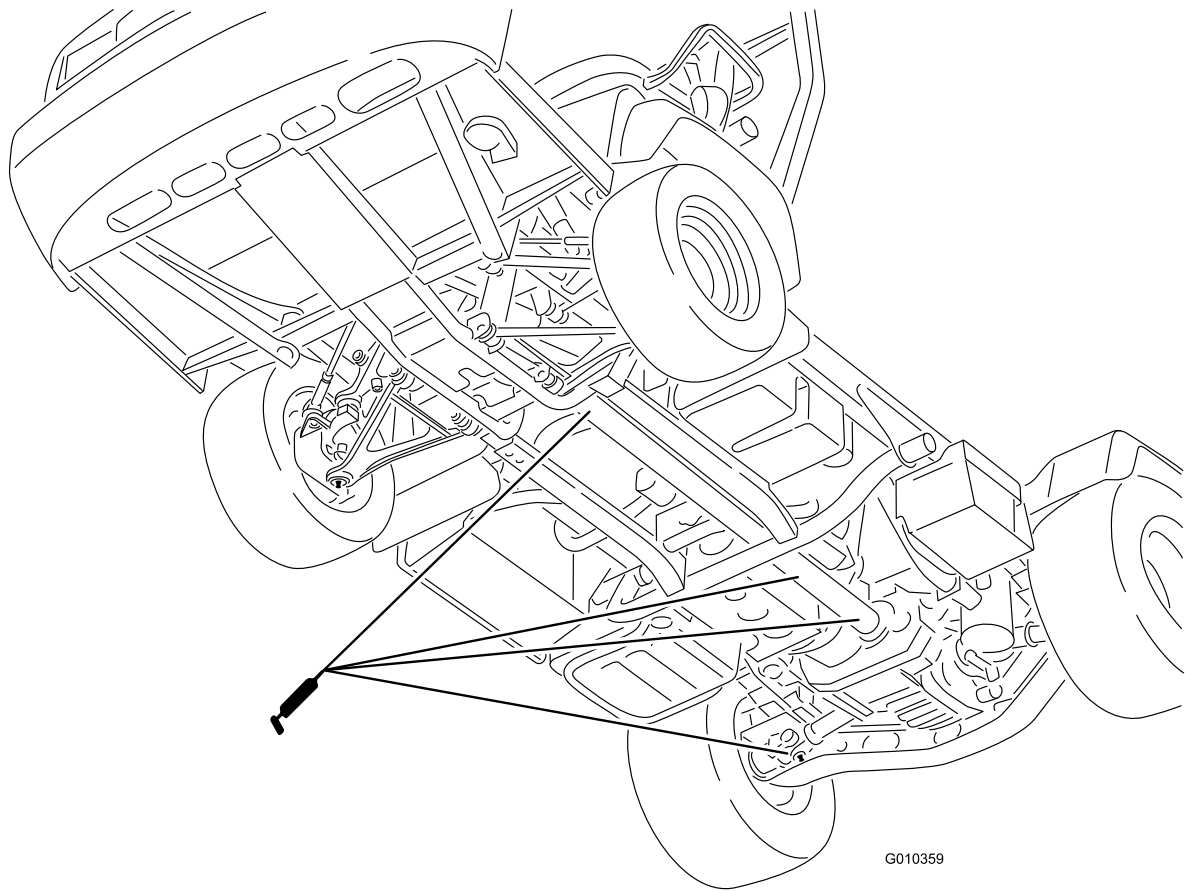

Figure 29
- U-joint (18); refer to Figure 29
- 4-wheel drive shaft (3); refer to Figure 29